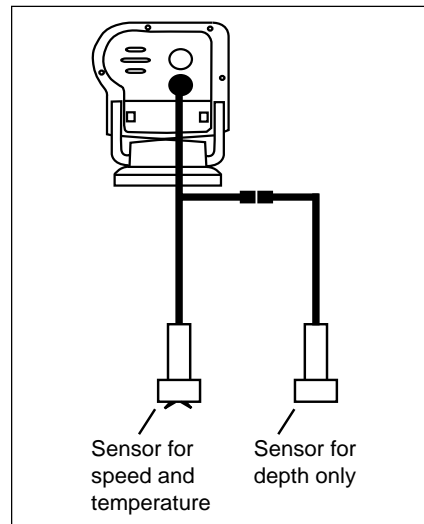

Fig. 2-15
2. Plug the cable from the depth-only transducer into the receptacle connector on the optional speed- and temperature-only transducer. The speed- and temperature-only transducer then connects at the transducer receptacle of the FishFinder L365. This is shown below in Fig. 2-15.